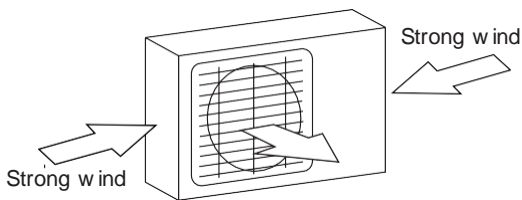

Fig. 5.1
- ☑ If the location is exposed to strong winds (for example: near a seaside), the unit must be placed against the wall to shelter it from the wind. If necessary, use an awning (see Fig. 5.1 & 5.2).